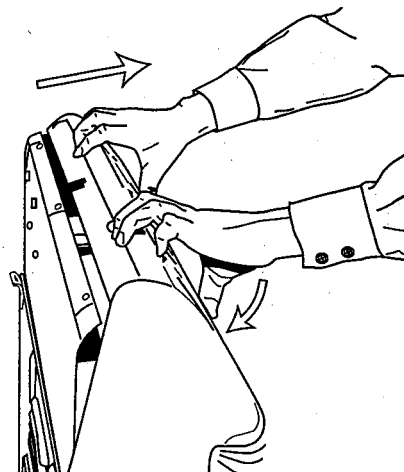

Figure 4-3
5. Roll the top of the console forward. (See Figure 4-3)